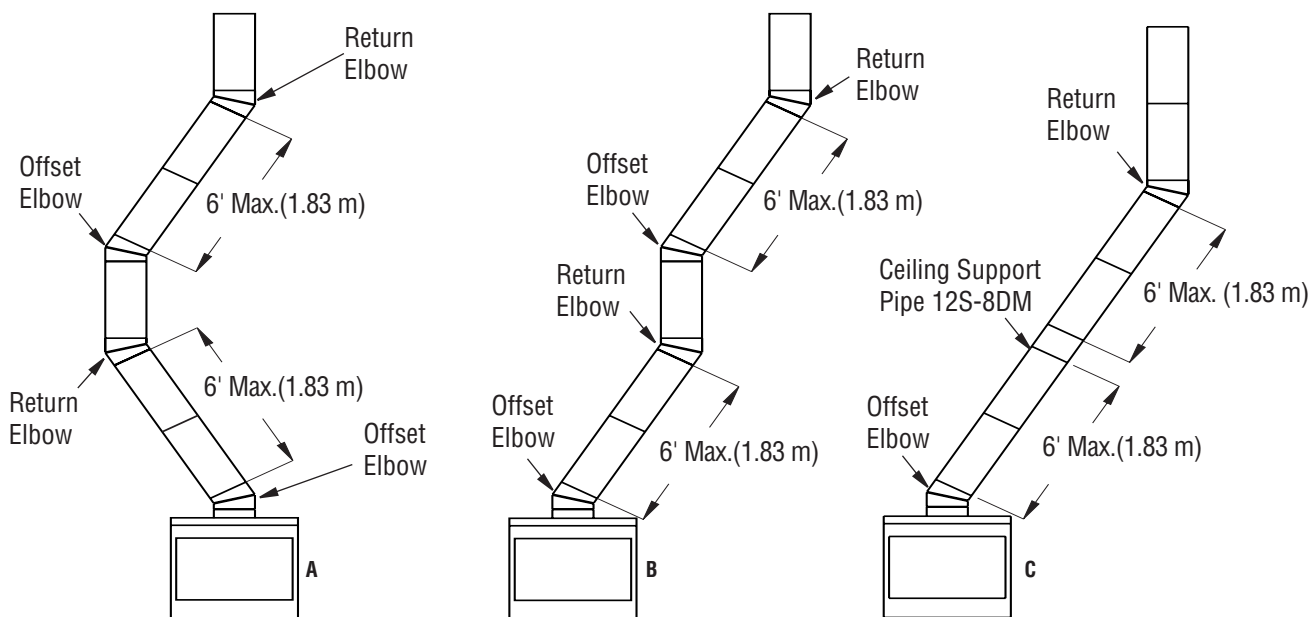

Figure 9 - Typical Offset Installation
1. To achieve desired offset, you may install combinations of 12", 18", 24", 36" and 48" length of double wall pipe (see offset chart, page 10, and Figure 9, page 9).
3. Maximum length of pipe between supports (return elbow or 12S-8DM) is 6' of angle run. Maximum of two 6' angle run sections per chimney system (see Figure 9, page 9).